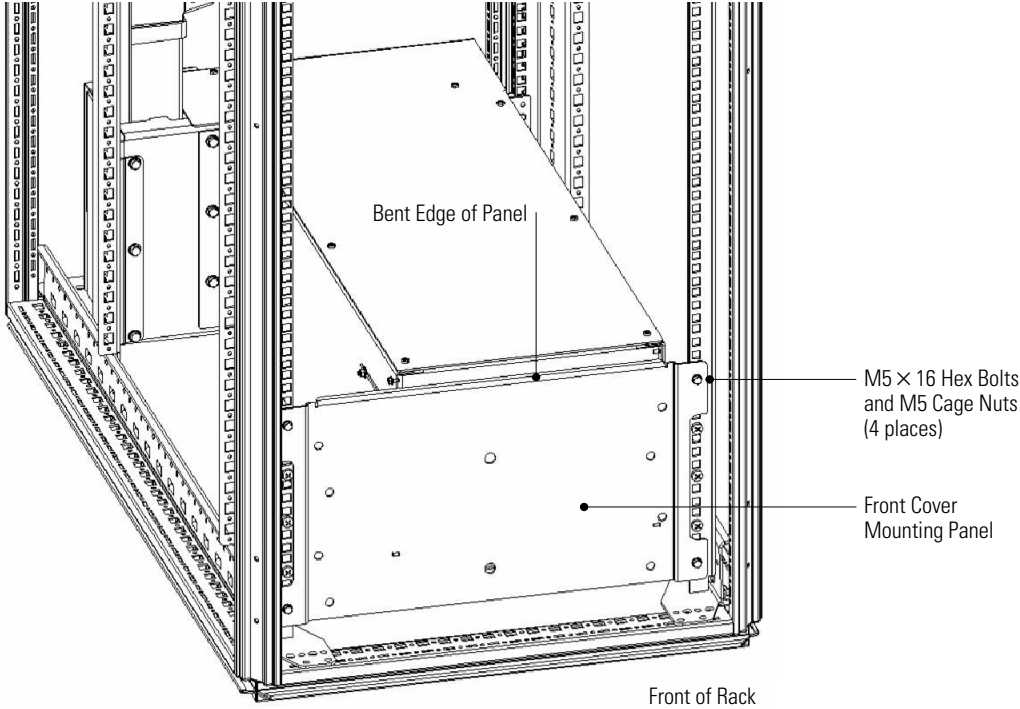

Figure 11. Front Cover Mounting Panel Installation
- 21. Using four M5 × 16 hex bolts and four M5 cage nuts, secure the front cover mounting panel to the front of the rack. Verify that the bent edge of the panel is at the top. See Figure 11.